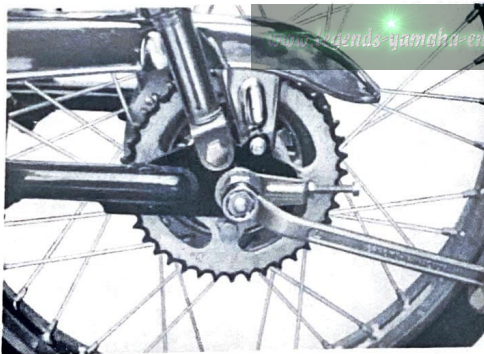

Fig. 5-2-5
- 2) Remove the rear wheel shaft nut, and pull out the shaft. (Figs. 5-2-5 and 6)